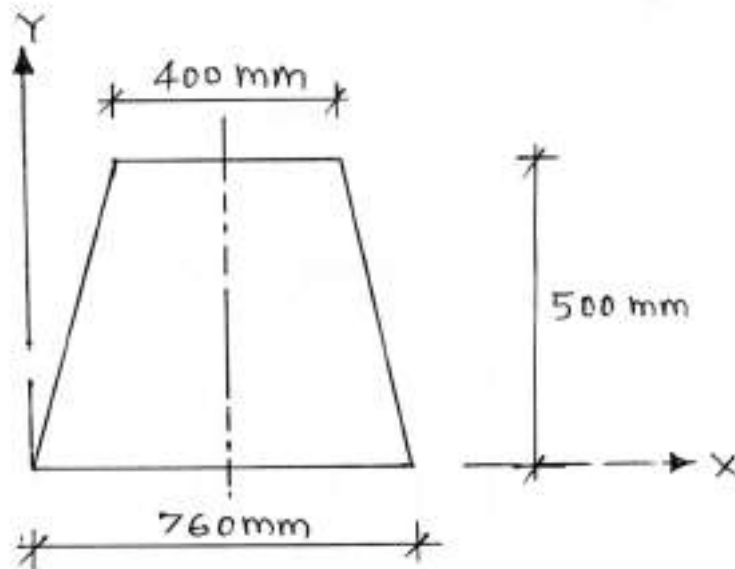

Fig. No. 10.
- c) Calculate position of center of gravity of the frustrum of cone as shown in Fig. No. 10.